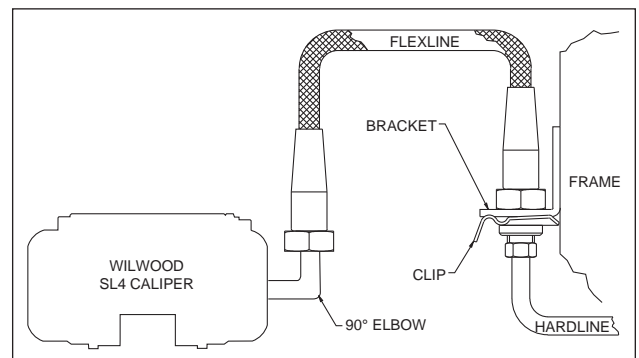

Figure 4. Brake Line Diagram
- Remove the caliper center bridge pad retainer bolt, nut, and tube from the caliper. Insert the brake pads (10) into the caliper, with the friction material facing the rotor, as shown in Photo 3. Check that the top of the brake pad is flush with the outside diameter of the rotor, Photo 4. If not, adjust by adding or subtracting shims (7) between the caliper and the bracket. After the caliper pad height is set, torque the caliper lock nuts (4) to 30 ft-lb. Secure the brake pads in place with the center bridge pad retainer tube, bolt, and locknut. The locknut should be snug without play in the bolt or tube. Be cautious not to over tighten.
- NOTE:** *The caliper in this brake kit utilizes a 1/8-27 NPT pipe thread inlet. OEM rubber brake hoses generally cannot be adapted to Wilwood calipers. Wilwood offers a brake flex line hose kit to fit this application, order P/N 220-8177 for C5, or 220-9101 for C6 (NOT included in kit), see Figure 4. Hose kit includes hoses, fittings, etc., all in one package for this application. **Carefully route hoses to prevent contact with moving suspension, brake or wheel components.** **NOTE:** *Wilwood hose kits are designed for use in many different vehicle applications and it is the installer's responsibility to properly route and ensure adequate clearance and retention for brake hose components.**